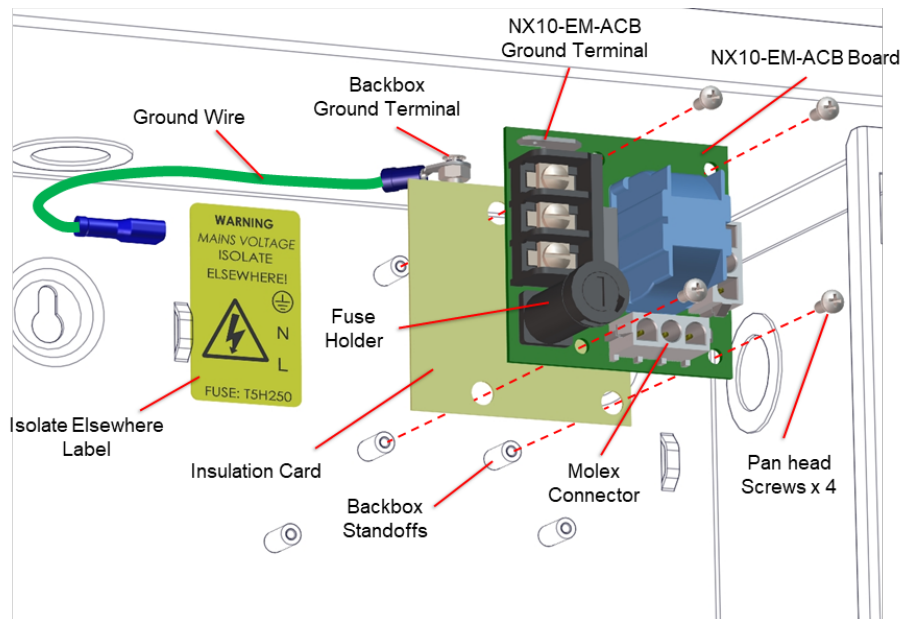

Figure 3 - NX10-ACS-ACB Location
2. Make sure that the Fiberglass Laminated Insulation Card is in position on the backbox standoffs (Figure 3).
4. Fit the four (4) panhead mounting screws.
The NX10-ACS-ACB has three (3) AC installation wiring terminals. In addition to the installation wiring requirements, the NX10-ACS-ACB board is prewired to the NX10-ACS base card via an AC Molex connector and connected to an enclosure's backbox stud via the NX10-ACS-ACB preconnected Spade terminal with a 1-way blade connector cable (Figure 3).